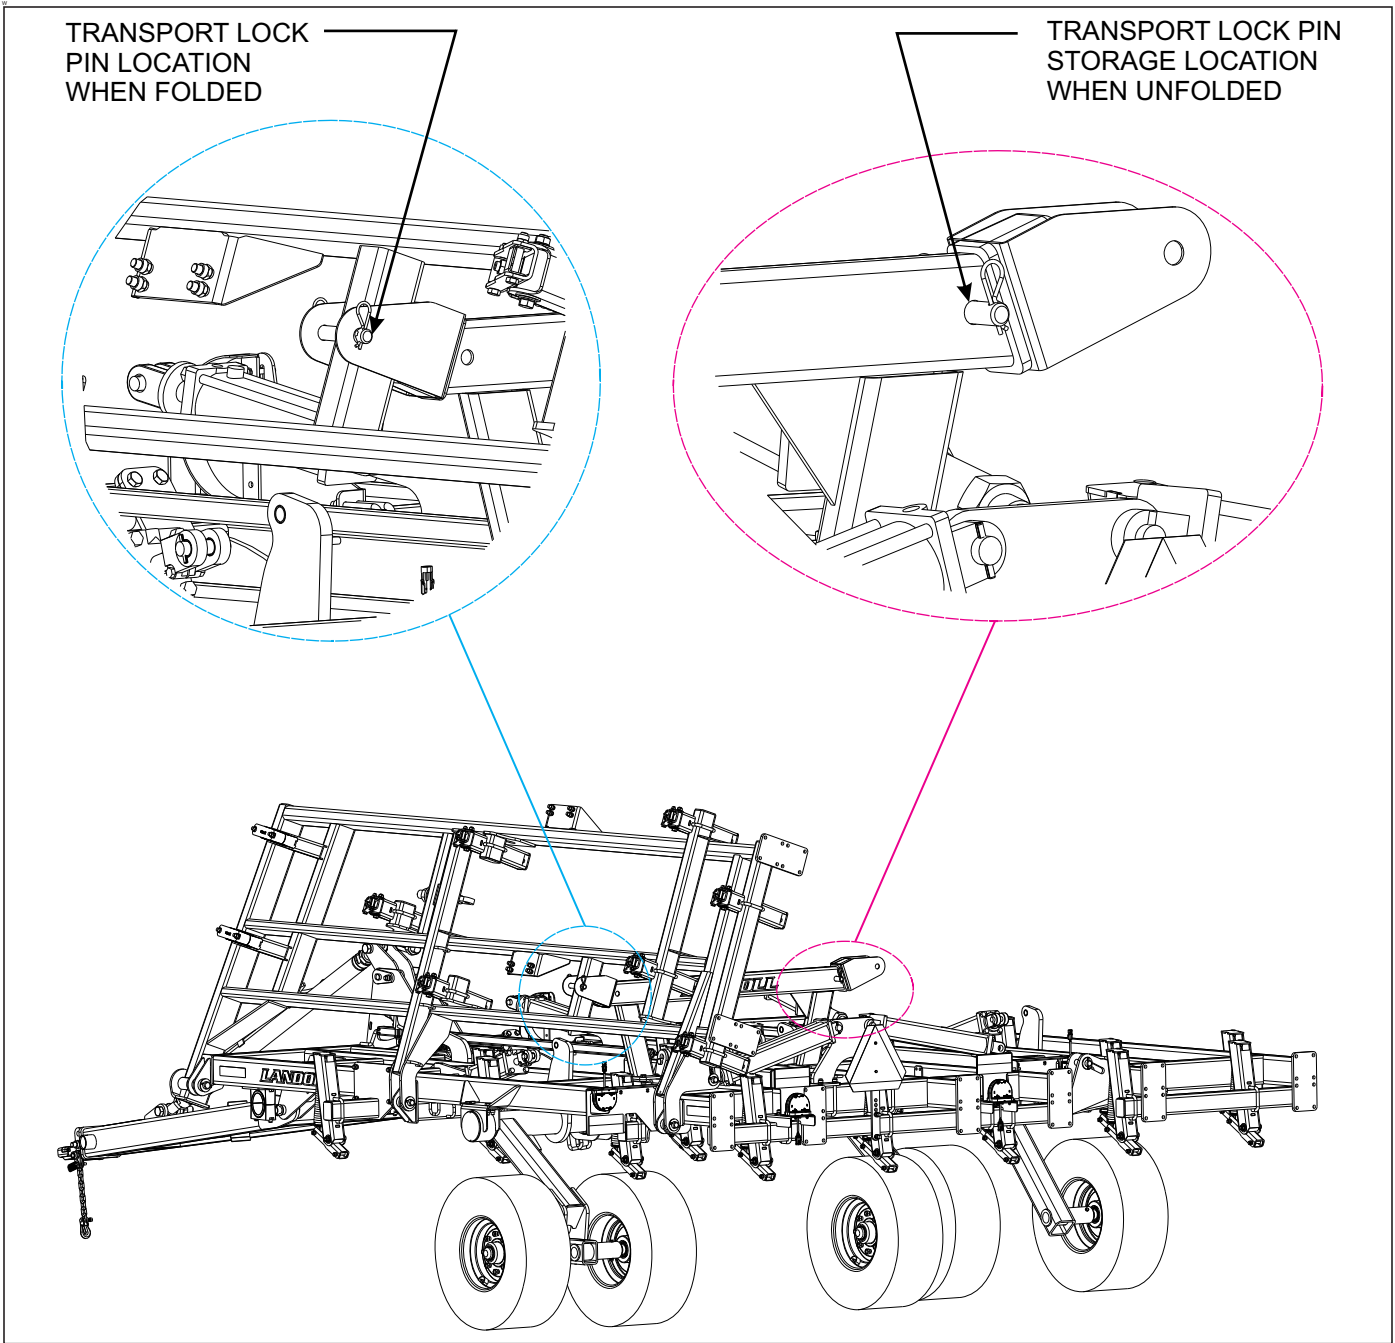

Figure 4-4: Wing Stabilizer Bracket Locks
4. To fold/unfold the Finisholl, find a level area large enough to accommodate the machine when it is fully unfolded. The tractor should be stopped and not moving with the implement fully raised. Remove the wing transport lock pins from the mounts and install them in the storage locations See Figure 4-4.
5. Slowly engage the tractor lever and fold/unfold the wing frames. When the wings are unfolded, continue holding the tractor lever to fully extend all fold cylinders. This will allow the wings to fully flex in the field. When the unit is fully folded, remove the wing transport lock pins from the storage location and install in the mounts provided on each side of the machine See Figure 4-4.
7. Storage - For extended periods of nonuse, it is best to store the Finisholl inside if possible. If stored outside, unfold the unit to keep wheels and disc bearings from filling with rain and/or snow. If the unit must be stored outside for extended periods, it is best to apply a light coating of oil or grease to exposed cylinder rods to prevent them from rusting. Grease the unit at all points See Table 4-1 and See Figure 4-15. Repair/Replace any worn or damaged parts. If the unit is stored in the folded position, make sure the wing transport lock pins are installed to prevent wing frames settling See Figure 4-4.